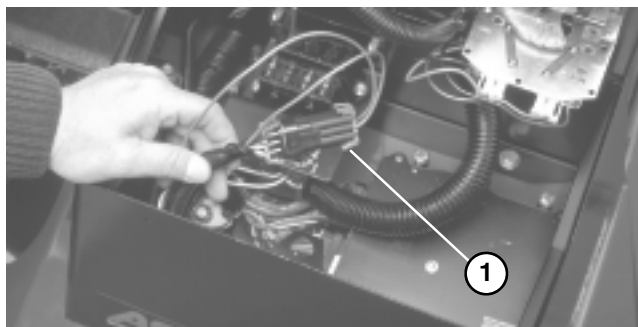

Figure 30
2. Open control panel cover. Locate wire harness and loopback connector. Carefully unplug loopback connector from harness connector (Fig. 30).